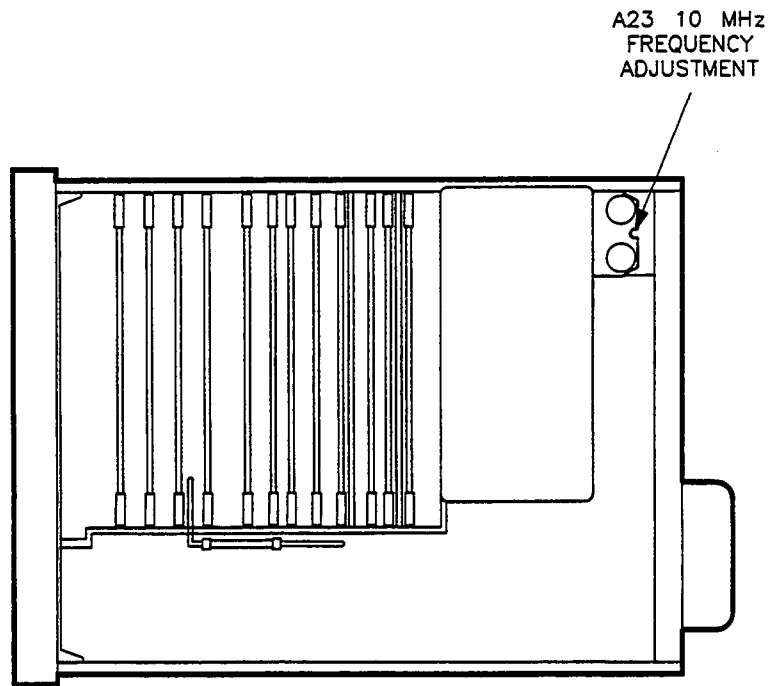

Figure 3-2. 10 MHz Standard Adjustment Location
4. Using a non-metallic tool, adjust the A23 10 MHz standard (see figure 3-2) for minimum horizontal movement of the oscilloscope waveform.